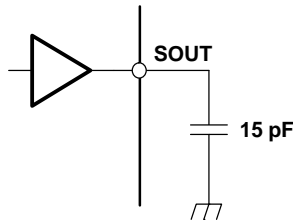
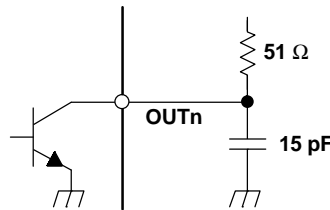
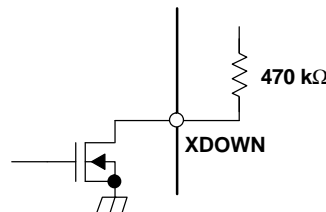
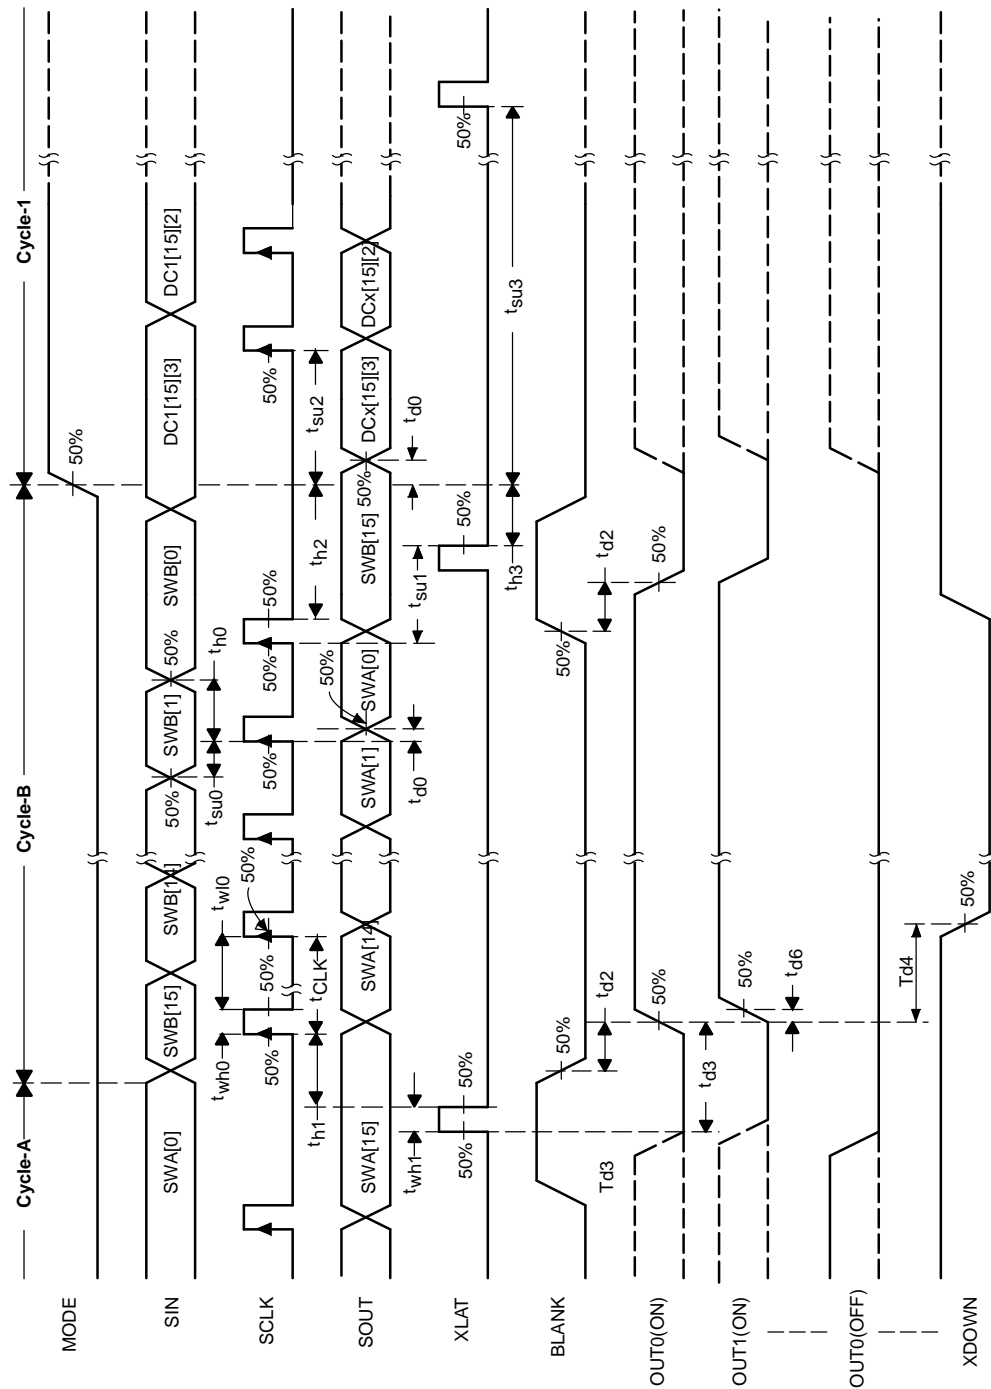

Figure 4. Test Circuit for Tr0, Tf1, Td0, Td1
Figure 5. Test Circuit for Tr1, Tf1, Td2, Td3, Td5, Td6
Figure 6. Test Circuit for Td4
Figure 9. Timing Chart Example for ON/OFF Setting to Dot-Correction
(1) See Figure 4. Defined as from 10% to 90%
(2) See Figure 5. Defined as from 10% to 90%
(3) See Figure 4, Figure 9 and Figure 10
(4) See Figure 5 and Figure 9
(5) See Figure 5, Figure 6, and Figure 9
(6) See Figure 5 and Figure 10